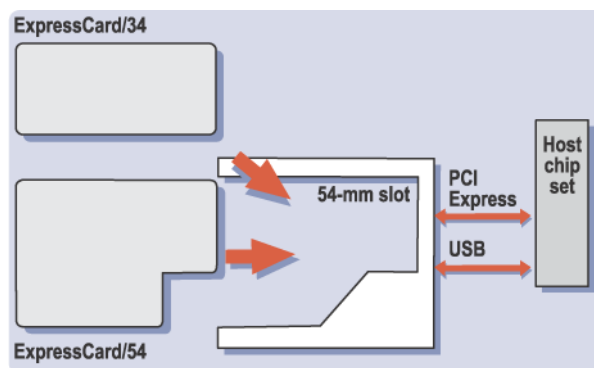

Figure 3. 54-mm ExpressCard Slot
- **One 54-mm slot** — The 54-mm slot shown in Figure 3 accommodates both ExpressCard/34 and ExpressCard/54 modules. The mechanical design requirements for an ExpressCard/54 implementation are more expensive. Its larger size and higher cost have a greater impact on smaller, low-cost platforms where the benefit derived from supporting both card sizes must be weighed against form-factor and cost penalties.